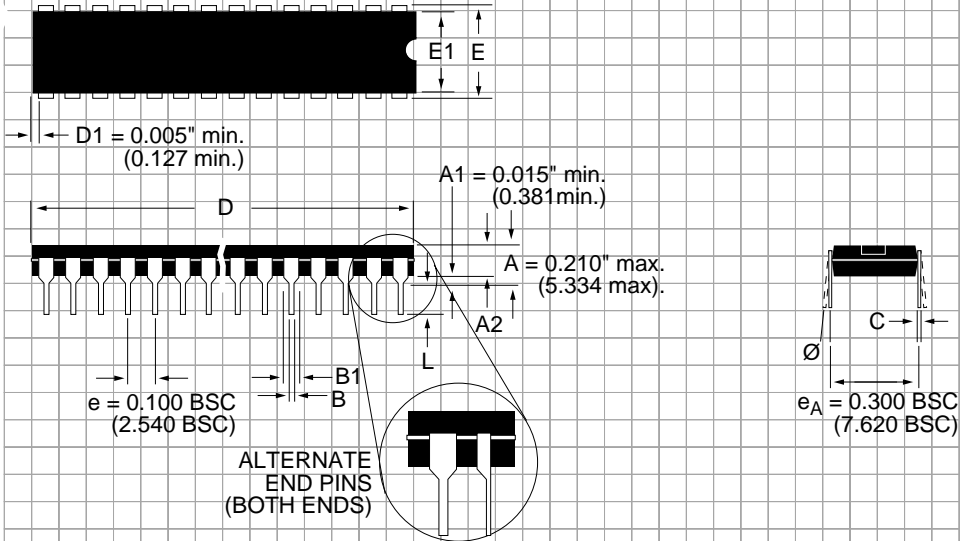

**Figure 25. Maximum Transient Duration without Causing a Reset Pulse vs. Reset Comparator Overdrive**
**Figure 25** shows maximum transient duration vs. reset-comparator overdrive, for which reset pulses are not generated. The data was generated using negative-going  $V_{\text{CC}}$  pulses, starting at 3.3V and ending below the reset threshold by the magnitude indicated (reset comparator overdrive). The graph shows the maximum pulse width a negative-going  $V_{\text{CC}}$  transient may typically have without causing a reset pulse to be issued. As the amplitude of the transient increases (i.e. goes farther below the reset threshold), the maximum allowable pulse width decreases. Typically, a  $V_{\text{CC}}$  transient that goes 100mV below the reset threshold and lasts for 40 $\mu\text{s}$  or less will not cause a reset pulse to be issued. A 100nF bypass capacitor mounted close to the  $V_{\text{CC}}$  pin provides additional transient immunity.